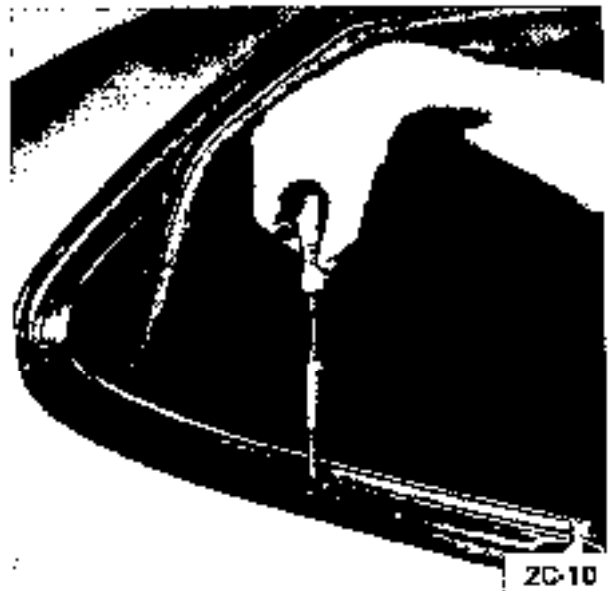

Figure 2C-10 Removing Chromed Molding
1. Unscrew chromed molding and remove rear quarter window. See Figure 2C-10.